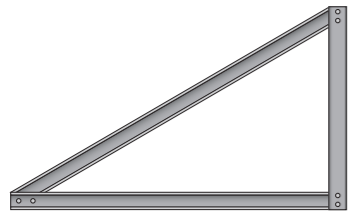

Figure 3.26
- Using Pythagoras' theorem, determine the length of the opposite side in Figure 3.26 if the adjacent side is 15 metres and the hypotenuse is 22 metres.